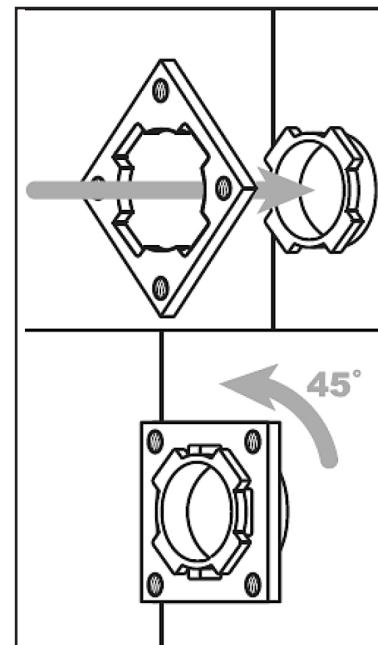

Figure 23 - Twist Lock Flange
4. Unscrew the four (4) bolts securing the element to the water heater and pull element out of the tank. Make sure the Twist-Lock flange is in the right position. See Figure 23.